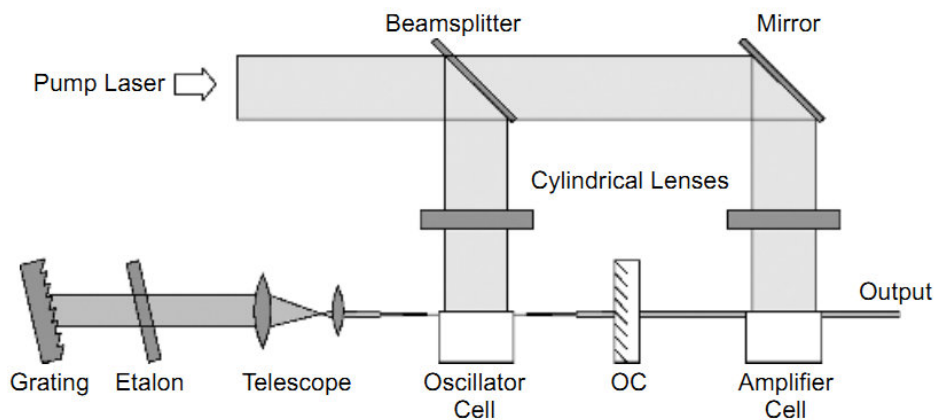

Figure 5: Optics for a dye laser.
- Usually consist of an output coupler and a diffraction grating. Although a simple mirror (HR) could be used in the cavity, a grating is invariably used to allow tuning of the laser across the wide gain bandwidth of the laser, the biggest advantage of a dye laser.
- Finally, a MOPA configuration may be used in which a separate amplifier is placed in front of the oscillator (complete with wave-length selector). The configuration for a complete dye laser with narrow spectral output width is shown in Figure 5.